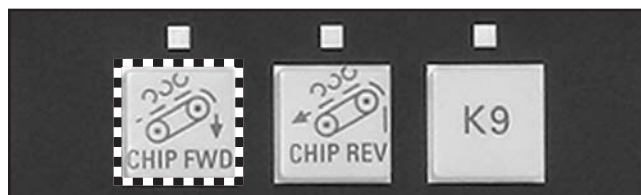

Figure 103. CHIP FWD key on MCP.
2. Press CHIP FWD key on MCP to raise dust shoe (see **Figure 103**).